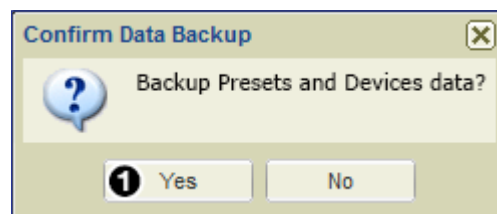

Figure 174. Confirm Data Backup Dialog
2. Click **Yes** (see figure 174, 1).
3. When the **Save File** dialog opens, click **Save As** (1).
2. Click the **Configuration** tab (see figure 174, ❶).